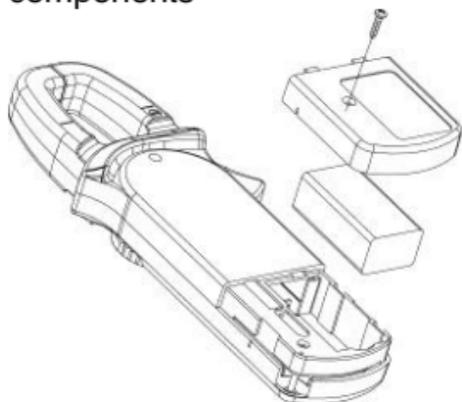

Figure 13
X. Maintenance (shown in Figure 13)